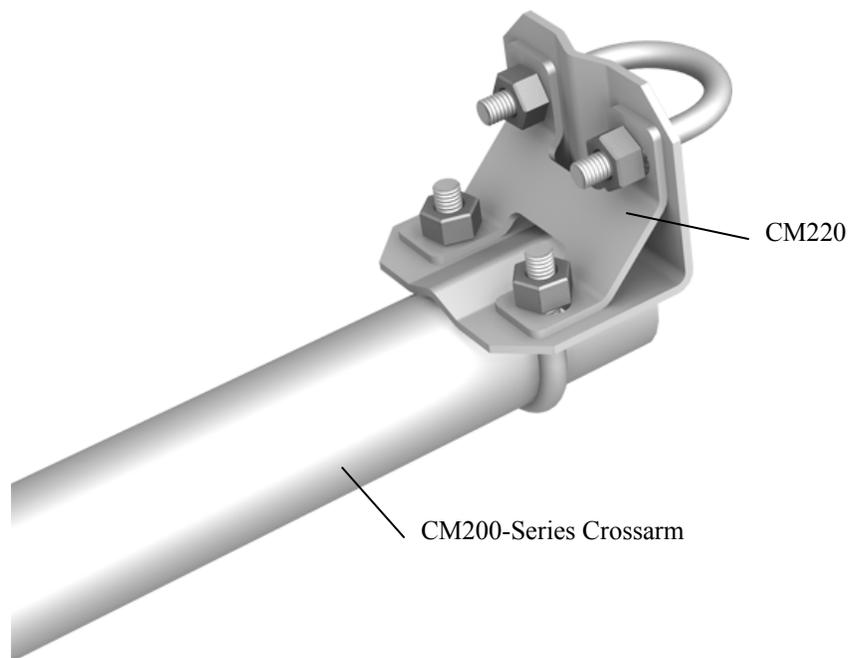
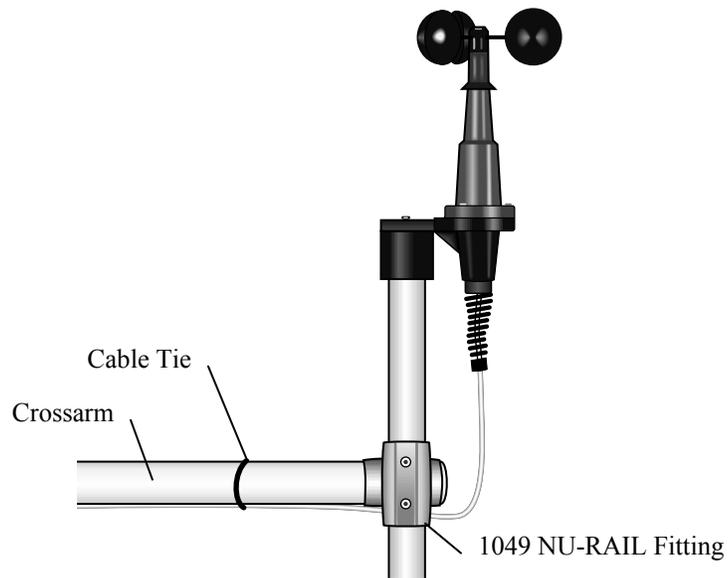

FIGURE 4-1. CM200-Series Crossarm with CM220 Right Angle Mounting Bracket
FIGURE 7-2. 03101 mounted to a crossarm via a 1049 NU-RAIL
- CM220 Right-Angle Mounting Kit (FIGURE 4-1 and FIGURE 4-2),
The 03101 mounts to a threaded 0.75 in. IPS schedule 40 pipe (1.05 in. O.D.). A 10 in. long mounting pipe ships with the 03101. The mounting pipe typically fastens to a CM200-series crossarm via the CM220 mount (see FIGURE 4-1 in *Quickstart*) or 1049 NU-RAIL fitting (FIGURE 7-2). The